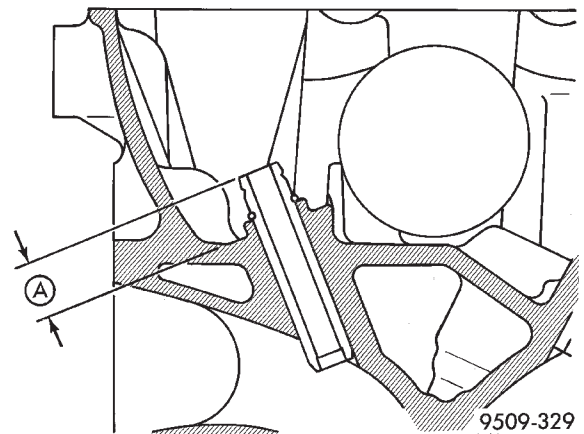

Fig. 107 Valve Guide Height
- (6) Check valve guide height (Fig. 107).